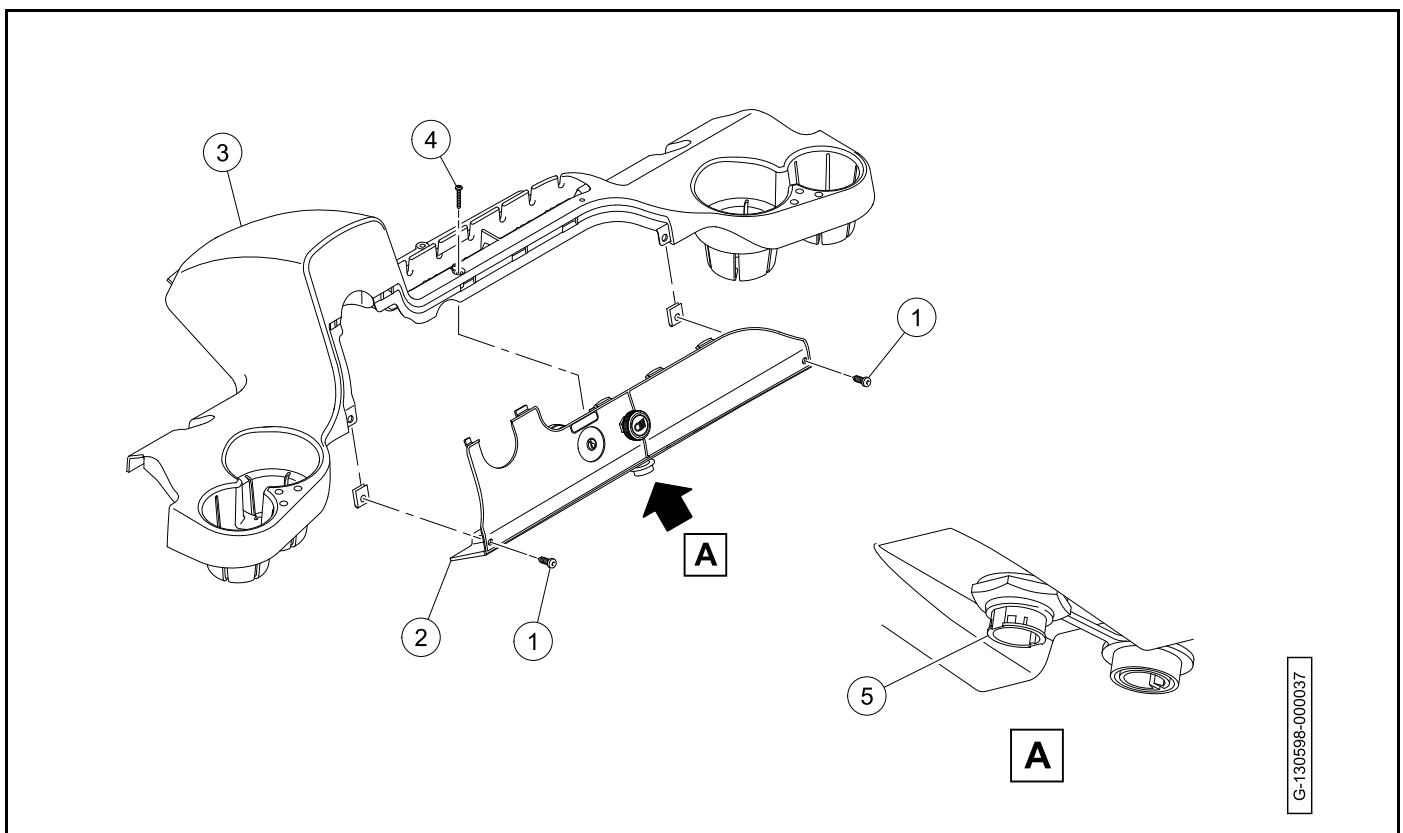

Figure 11-3
3. Remove the three screws (1 and 2) (**Figure 11-3, Page 11-29**).